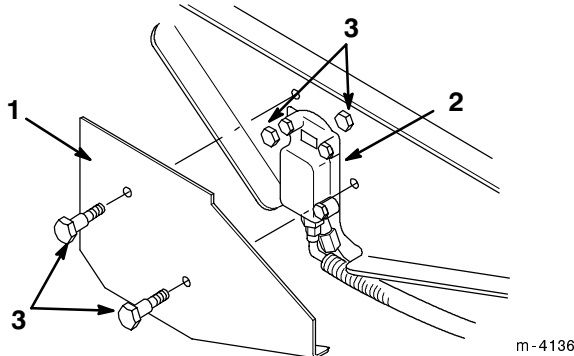

Figure 19
1. Remove the two bolts securing the side guard plate and remove the plate (Fig. 19).
2. Remove the two bolts securing the hydraulic motor housing (Fig. 19)